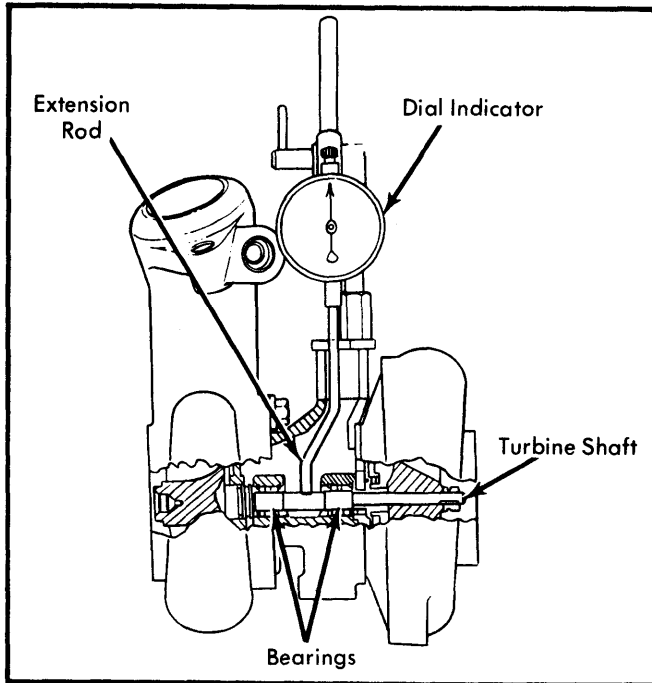

Fig. 4 Checking Radial Bearing Clearance With Dial Indicator
- 4) Attach suitable dial indicator with 3" extension rod (4201-C and 4201-A) to center housing so indicator plunger extends through oil outlet port and contacts shaft of turbine wheel assembly. See Fig. 4.